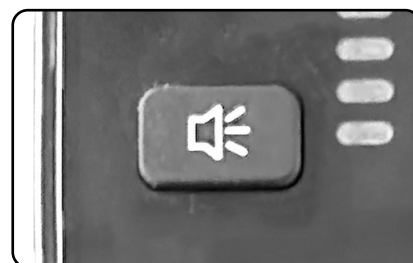

Fig. 9
- To sound the horn, press the horn button [  ] on the joystick (Fig. 9).